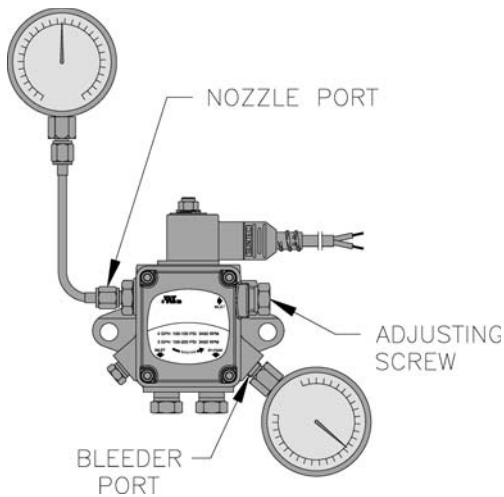

Figure 26: Adjusting Fuel Pump Pressure
- When checking a fuel unit's operating pressure, a reliable pressure gauge may be installed in either the bleeder port or the nozzle port. See Figure 26.